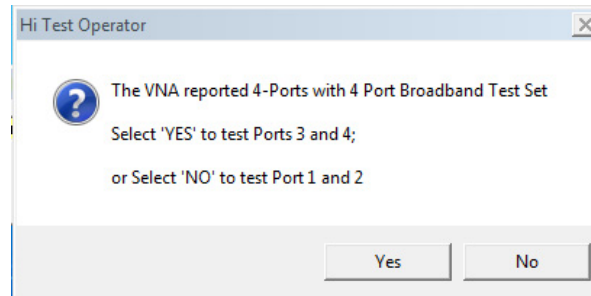

Figure 5-8. Found Instrument Dialog
11. The ME7838G4 is a 4-port system. The calibration and verification testing can be performed on only two ports at a time. At the prompt shown in Figure 5-8, select to test either Port 1 and Port 2, or test Port 3 and Port 4. If testing Port 3 and Port 4 is requested, select Yes. If testing port 1 and 2 is requested, select No.